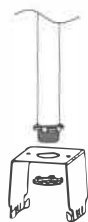

Figure2
1. Mount the bracket on 3/4" NPT (Figure 2)